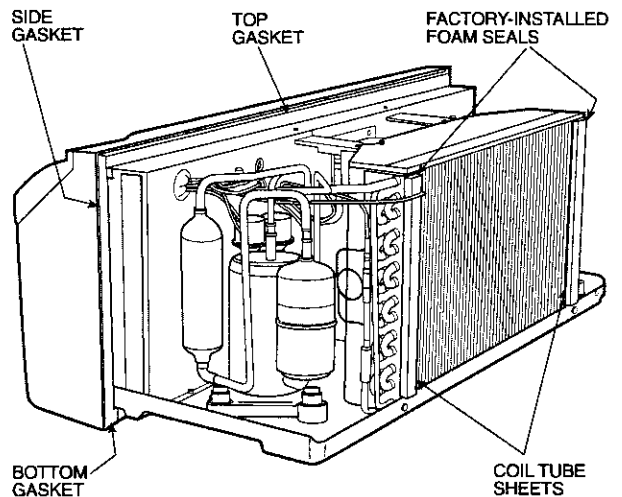

FIGURE 12 — UNIT GASKETS AND TUBE SHEETS
6. Slide chassis into wall sleeve until foam gaskets rest firmly against front of wall sleeve. See Figure 12.